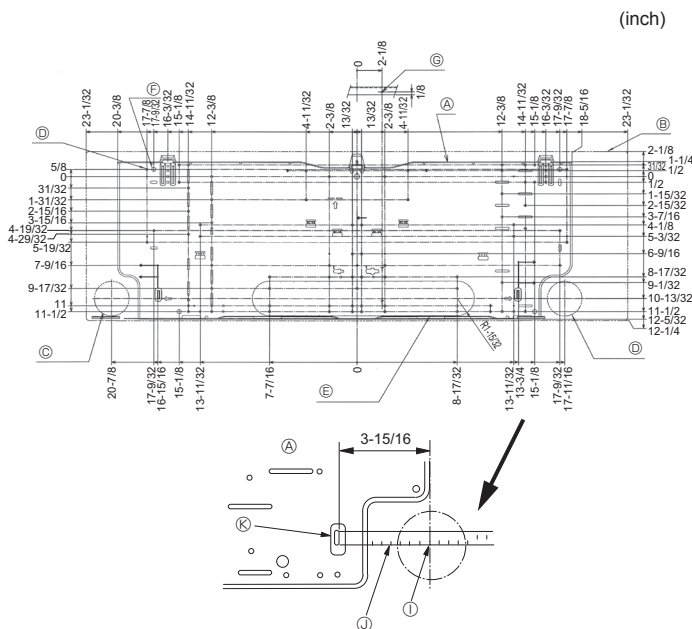

Fig. 3-2
3.2.1. Setting the wall mounting fixture and piping positions (Fig. 3-2)